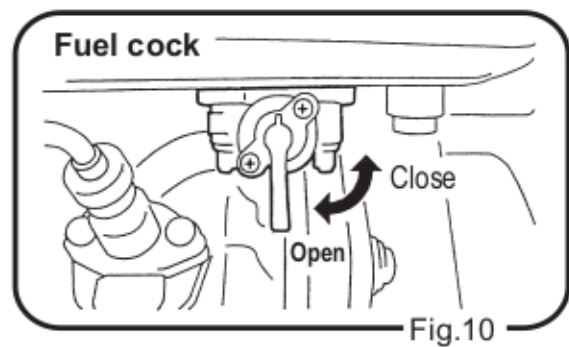

Fig.10
- 1 Open the fuel cock lever. (Fig 10)